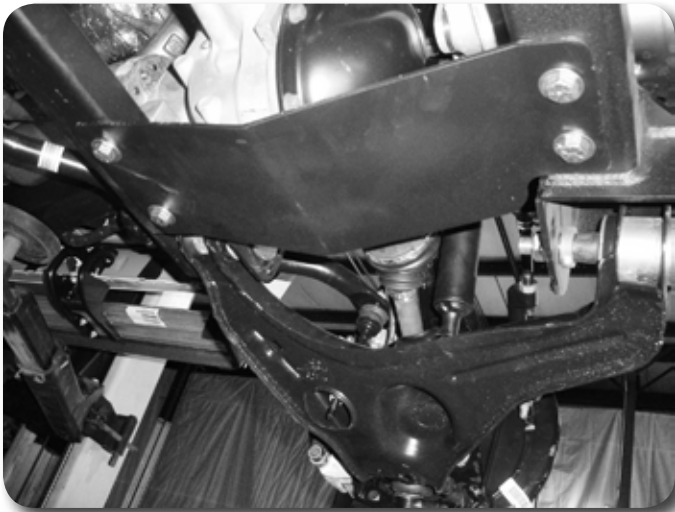

Figure 28
43. Install the provided differential skid plate to the front and rear crossmembers with 1/2" x 1-1/4" bolts and 1/2" SAE washers into the threaded holes in the crossmembers **Figure 28**. Leave hardware loose.